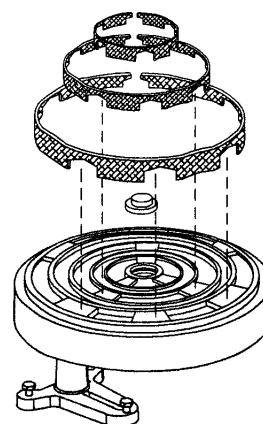

Fig.27
1. Replace the wicks in the burner rings. Ensure that the cut-outs in the wicks line up with the fuel ports between the central reservoir, and the burner rings. (See Fig.27)